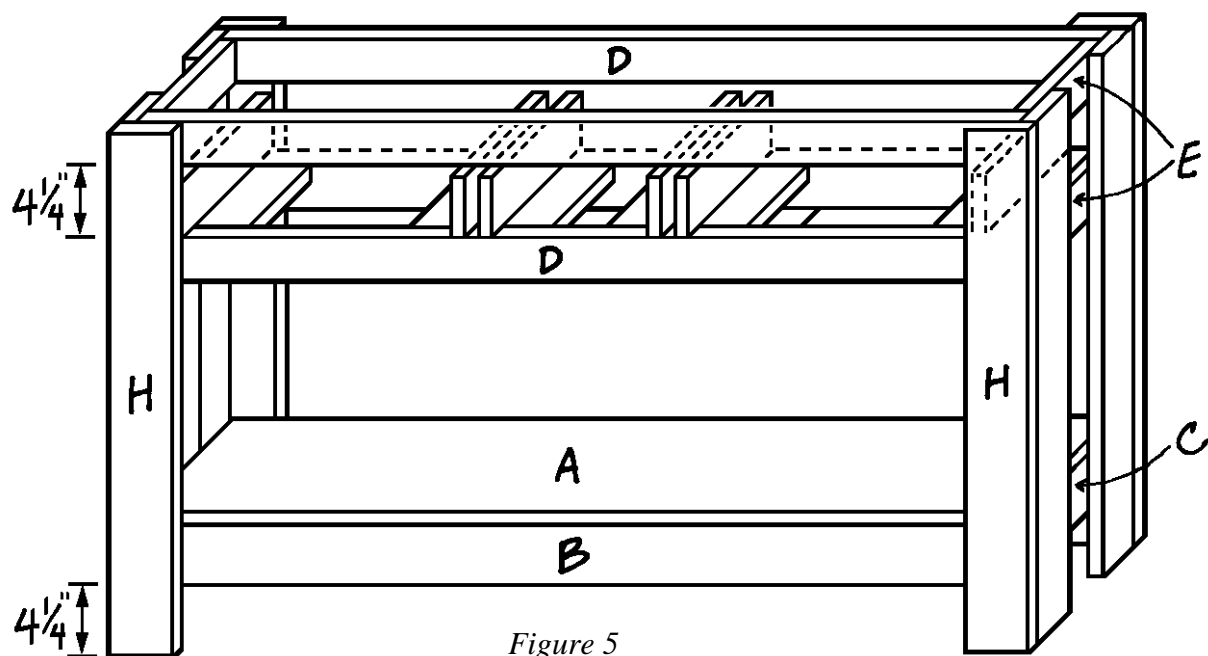

Figure 5
1. Cut eight 30"-long legs (H) from 1 x 4 pine. Before assembling the legs, study *Figures 5* and *6* to see how they're attached to both the inner support assemblies and the shelf assembly. The tops of the legs (H) will be flush with the upper edges of the inner support assembly (the one without the drawer guides attached). The inner support assembly with the drawer guides attached will be positioned 4-1/4" below the bottom edge of the first inner support assembly, and the bottom edge of the shelf assembly will be positioned 4" from the bottom of the legs. The front and back legs (H) will overlap the edges of the side legs (H).
4. Position the assembled legs as shown in *Figures 5 and 6*; then glue them to each of the three center assemblies. Secure with two 1-1/4" screws at each joint.